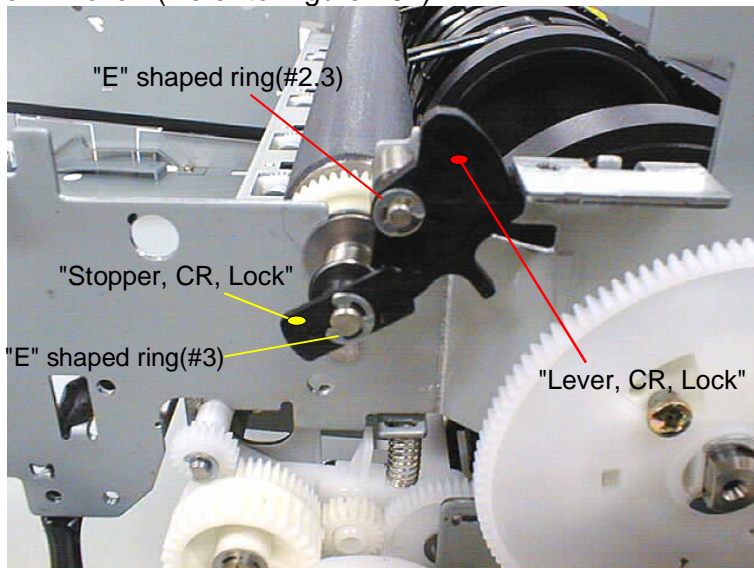

Figure 4-55. "Stopper, CR, Lock" and "Lever, CR, Lock" Removal
8. Remove "E" shaped ring(#3) securing "Stopper, CR, Lock", and remove "Stopper, CR, Lock". (Refer to Figure4-55)